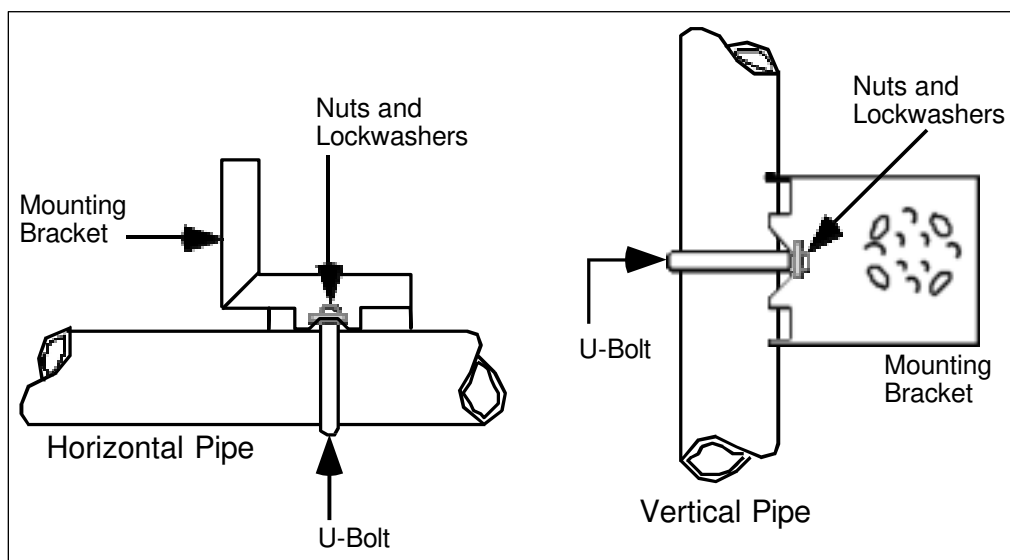

Figure 6 – ST 700 Standard Transmitter - Angle Mounting Bracket Secured to a Horizontal or Vertical Pipe
1. Refer to Figure 6. Position the bracket on a 2-inch (50.8mm nominal diameter, 2.38" (60.4mm) actual OD) for a horizontal or vertical pipe, and install a "U" bolt around the pipe and through the holes in the bracket. Secure the bracket with the nuts and lock washers provided.